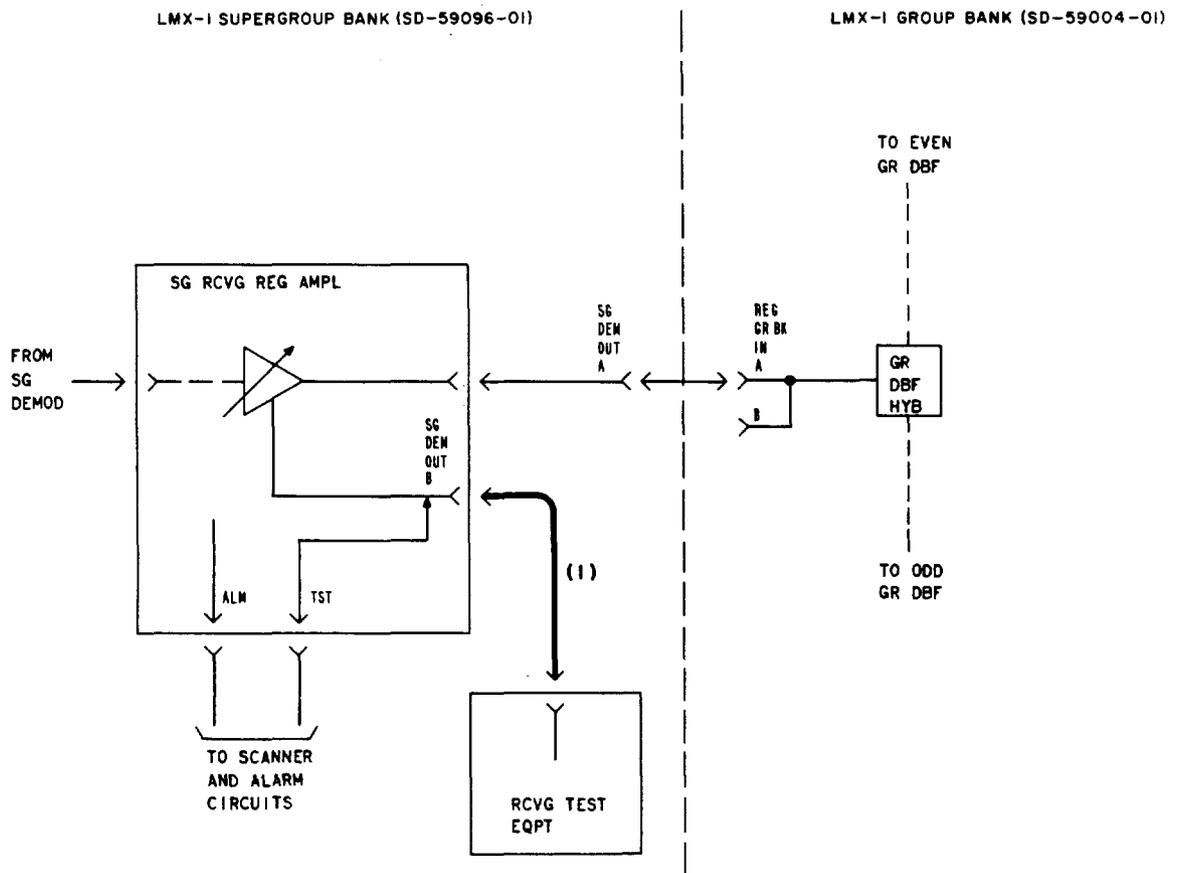

Fig. 4—Test Connections—Input Pilot Level Check
7	If the requirement of Step 6 is met, proceed to Step 9. If it cannot be met, proceed as follows: Group 1: Remove the associated group bank from service and perform out-of-service tests as prescribed in Section 356-120-502. Group 2 through 5: Verify that the pilot input power requirement is correct for the group circuit being tested as follows: (a) Adjust the RTE as follows: Frequency: Table A Power: -48.0 dBm Impedance: 75 ohms, unbalanced Caution: Connect the patch cord to the RTE before making the connection to the SG DEM OUT B jack. (b) Connect the RTE to the SG DEM OUT B jack of the supergroup regulated amplifier associated with the group bank being tested [patch (1), Fig. 4]. (c) Measure the power of the input pilot. Requirement: -48 dBm
(b) Disconnect the RTE [patch (1), Fig. 4].
(b) Connect the RTE to the SG DEM OUT B jack of the supergroup regulated amplifier associated with the group bank being tested [patch (1), Fig. 4].